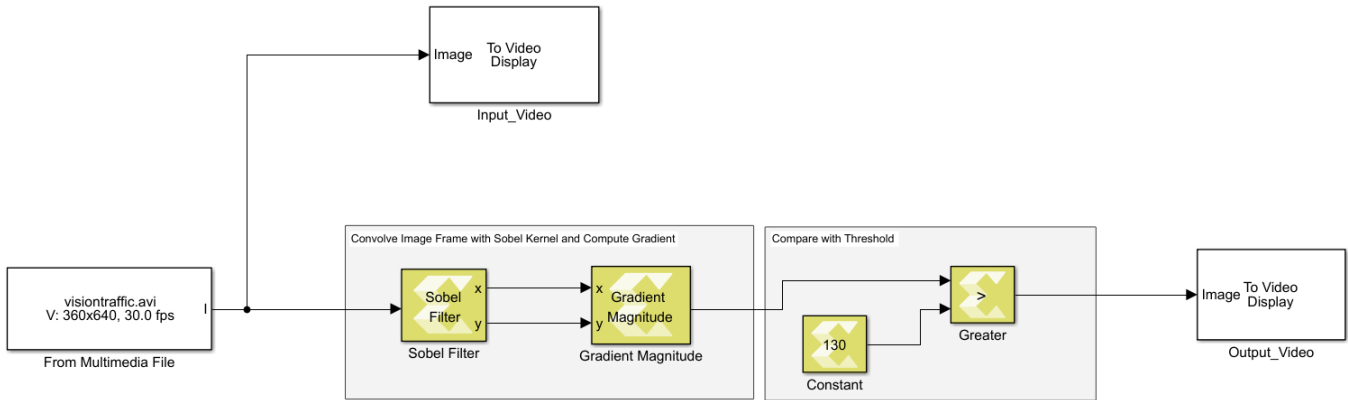

Figure 4: Algorithm with Sobel Filter and Gradient Magnitude
3. From the Library Browser, select the **Sobel Filter** block from the **Computer Vision** sub-library of the Xilinx Model Composer library. Drag the block into the area labeled **Convolve Image Frame with Sobel Kernel and Compute Gradient** as shown in Figure 4 and connect the input of this block to the output of the **From Multimedia File** block.